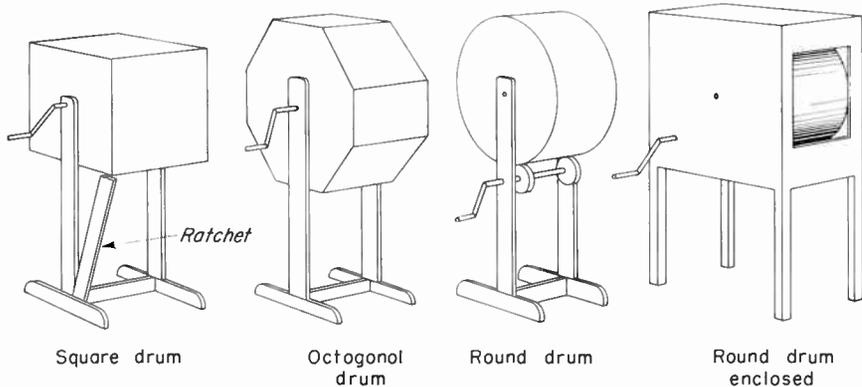

Fig. 9-9. Title drums.
**The drum.** For separate titles round, square, and octagonal drums have been used in studios for quick title changes. The round drum must be relatively large in comparison with the framed area, or the curve of the surface will be noticeable. Drums are always used vertically, since the vertical dimension of the frame is shorter and more pictures can be put on the drum when they run this way (Fig. 9-9).